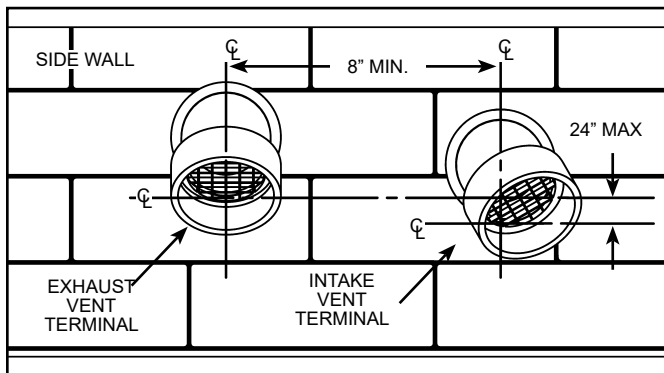

Figure 20.
**Important:** When terminating the vent on a side wall, the following specifications pertaining to terminal location must be followed (see Figure 20).
4. To avoid exhaust recirculation, the air intake terminal may be rotated away from the exhaust vent terminal (see Figure 20).